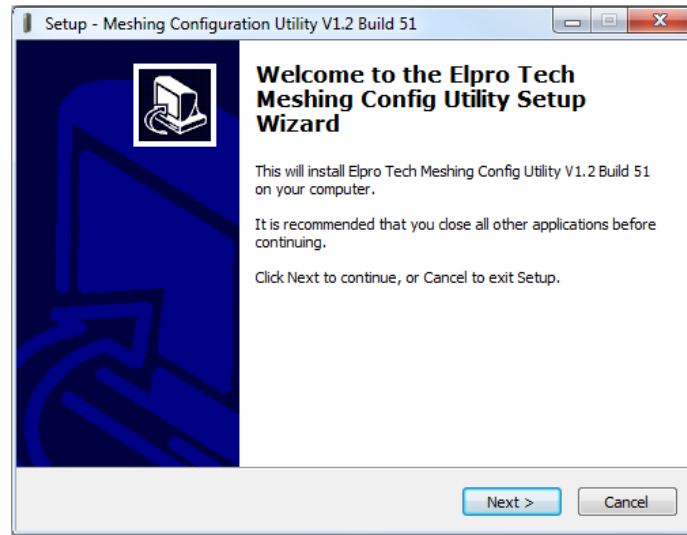

Figure 28 Installation Wizard
5. Follow the on-screen instructions to install the software (see Figure 28).